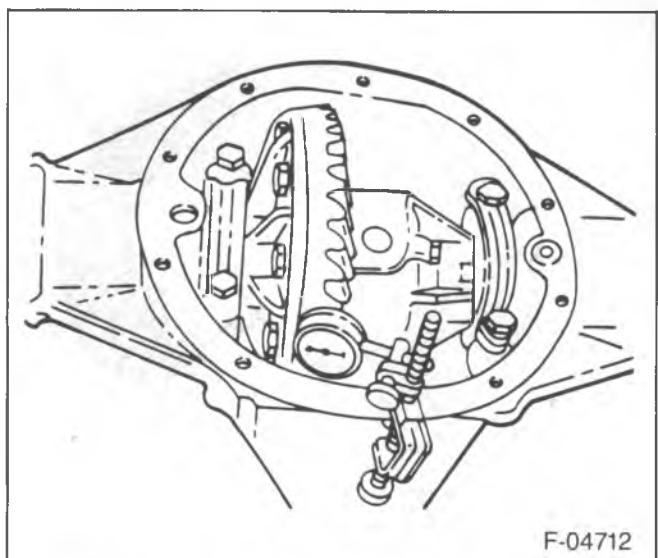

Figure 22—Checking Ring Gear Backlash
3. Check and record the backlash at three or four points around the ring gear (figure 22).